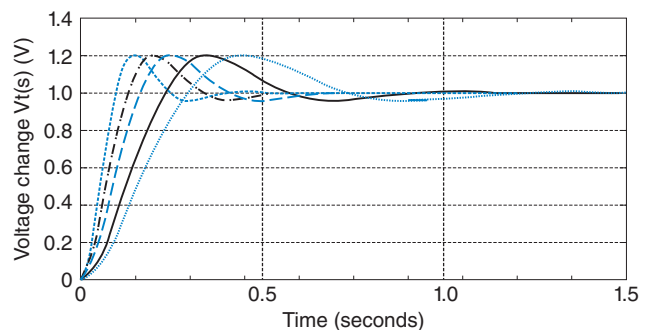

FIGURE I-4.3 Time responses for an automatic voltage regulation system
10. Figure I-4.3 shows five step responses of an automatic voltage regulation system as one of the system parameters varies (*Gozde, 2011*). Assume for all five responses that they are those of a second-order system with an overshoot of 20%. Make a sketch of the positions of the poles in the complex plane for each one of the responses. Label the curves A through E from left to right.